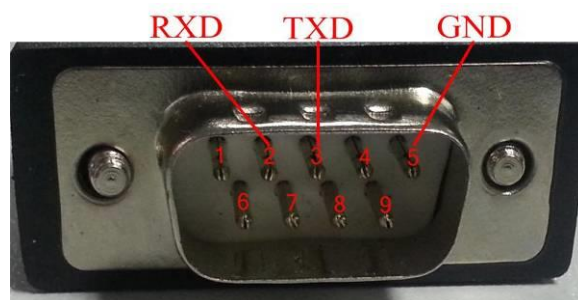

Fig 1-3 Male type pins definition of RS\_232Port
- 1) Male type pins definition of RS\_232Port is shown in Fig1-3.